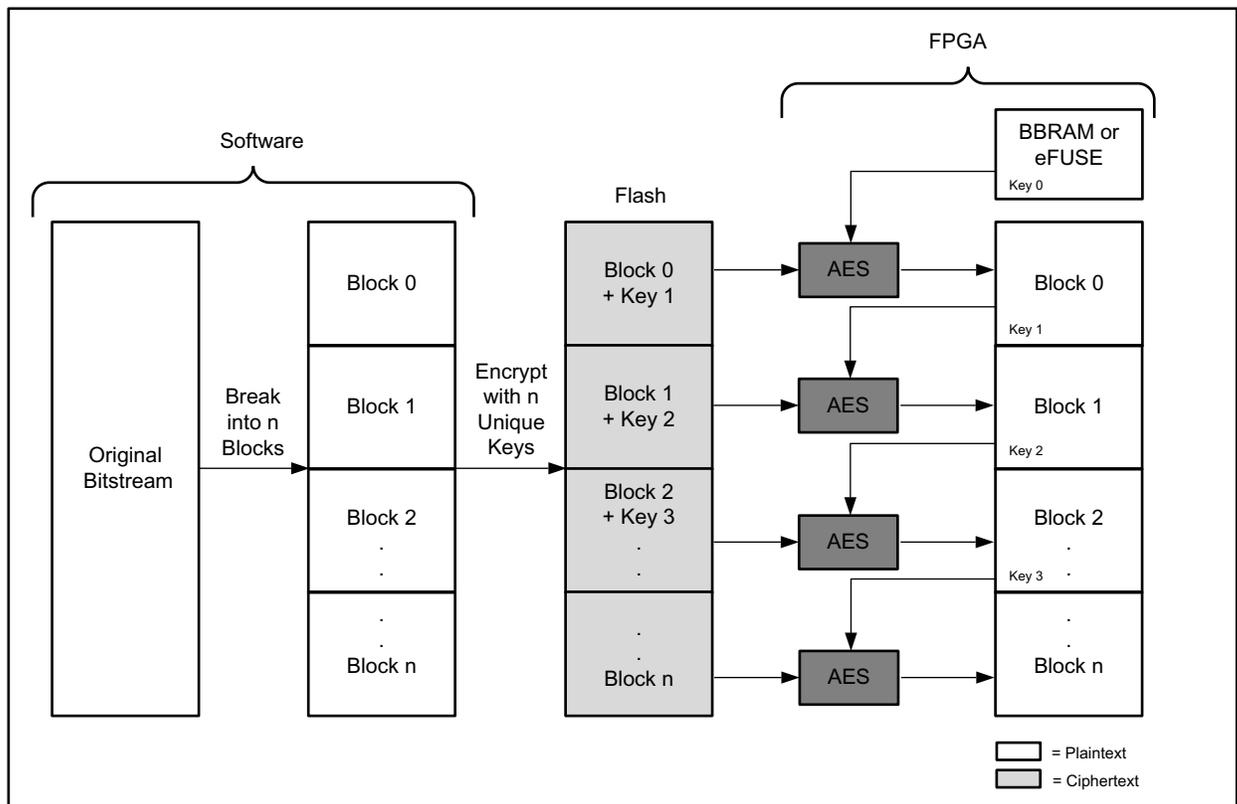

Figure 6: Key Rolling
To avoid having to store all the decryption keys in on-chip memory (BBRAM or eFUSE), UltraScale and UltraScale+ FPGAs use a *key rolling* technique where only the initial key (key 0) is stored on-chip, while keys for each successive block are encrypted (wrapped) in the previous block. Figure 6 illustrates this concept.